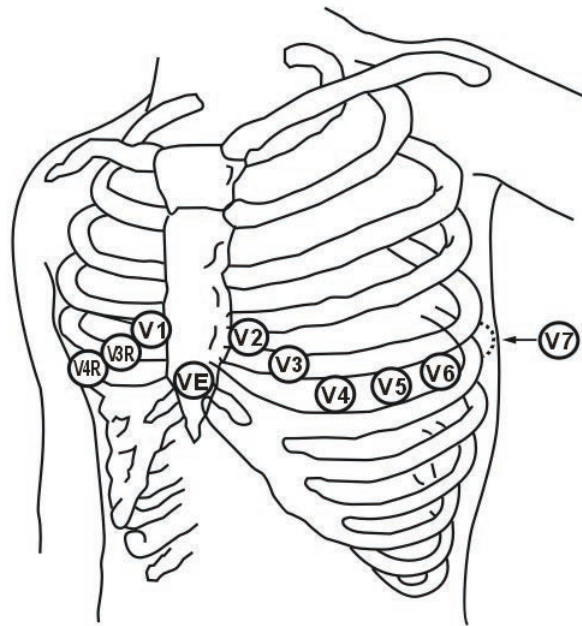

Figure 10-3 Positions of Chest Electrode
Attach the chest (V) electrode to one of the following positions indicated in *Figure 10-3*: